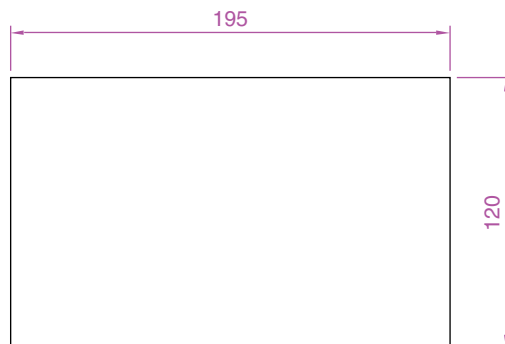

Fig. 2.29 Exercise 2
- Construct the outline in Fig. 2.29 using the **Line** tool. The coordinate points of each corner of the rectangle will need to be calculated from the lengths of the lines between the corners.